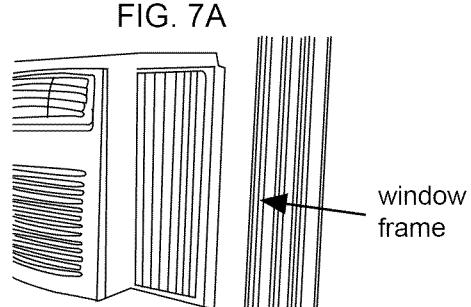

FIG. 7A
- 4** Extend the side panels out against the window frame (FIG. 7A for wooden windows), (FIG. 7B for Vinyl-Clad windows).